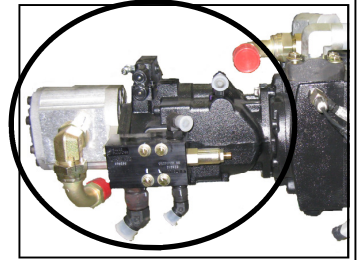

FIG. 37-1
**HYDRAULIC PUMPS**– The hydraulic pumps (fig. 37-1) circulate the hydraulic oil throughout the necessary systems and back through a cooler before returning it to the reservoir.